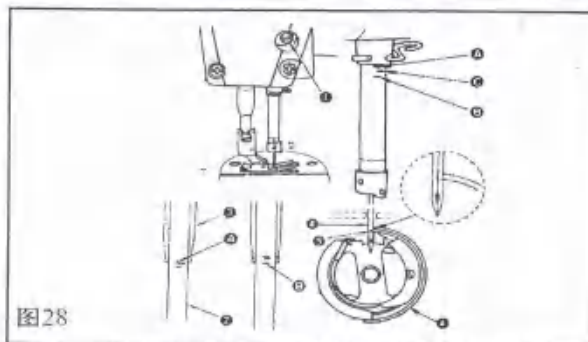

图28
- 1) The standard tilt (horizontal) of the feed dog is obtained when marker dot (A) on the feed bar shaft is aligned with marker dot (B) on feed rocker (1).
23. 针与旋梭的关系 (图28) NEEDLE-TO-HOOK RELATIONSHIP (FIG.28)